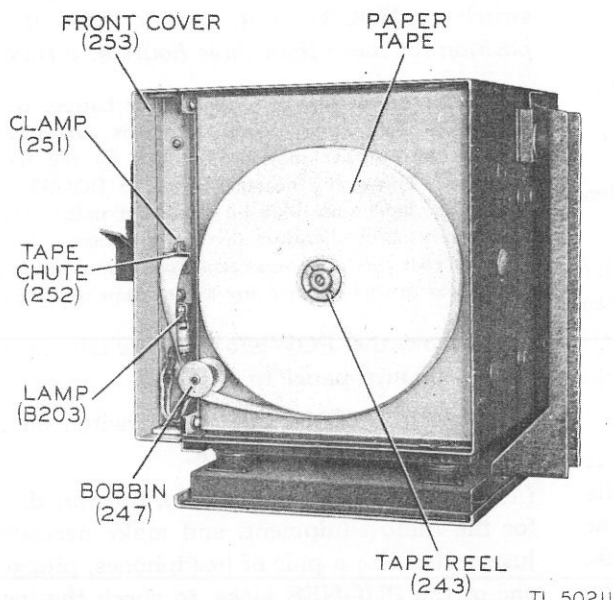

Figure 11—Installation of recording tape
- (1) Remove the side cover of the recorder-scanner unit after loosening the two thumbscrews.
- (2) Place the roll of tape on the tape-reel hub, so that the tape unrolls in a clockwise (to the right) direction when pulled from its free end (fig. 11).
- (3) Loop the free end of the tape under the wooden bobbin (247), and pull up about a foot length of tape.
- (4) Twist the tape 90° toward the inside of the case (counterclockwise when viewed from above),